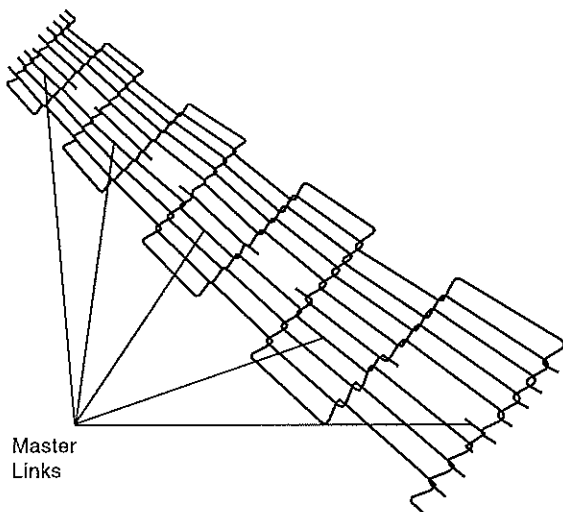

Figure 4-24.
1. Using long nose pliers, an entire link can be removed with the conveyor assembly either in or out of the oven. Position master links at end of conveyor as shown in Figure 4-24.